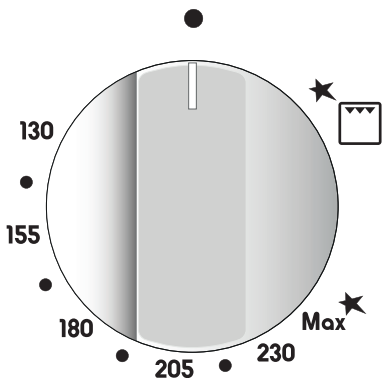

Fig. 4.1
The numbers printed on the control panel or on the knob (fig. 4.1) indicate the increasing oven temperature value (see table below). To regulate the temperature, set the knob to the chosen number. The “FAN ASSISTED GAS OVEN” column refers to the oven burner used in combination with the fan motor (forced convection cooking: only for the “fan assisted” models - models having also the position  or ), while the “GAS OVEN” column refers to the oven burner used in the normal convection mode (without fan motor). The ★ symbol close to the maximum position indicates that the electric ignition is incorporated into the knob (activated by the knob itself).
- 2 – Lightly press and turn the thermostat knob anti-clockwise to the maximum position ★ (fig. 4.1). Press the knob firmly until the burner lights.